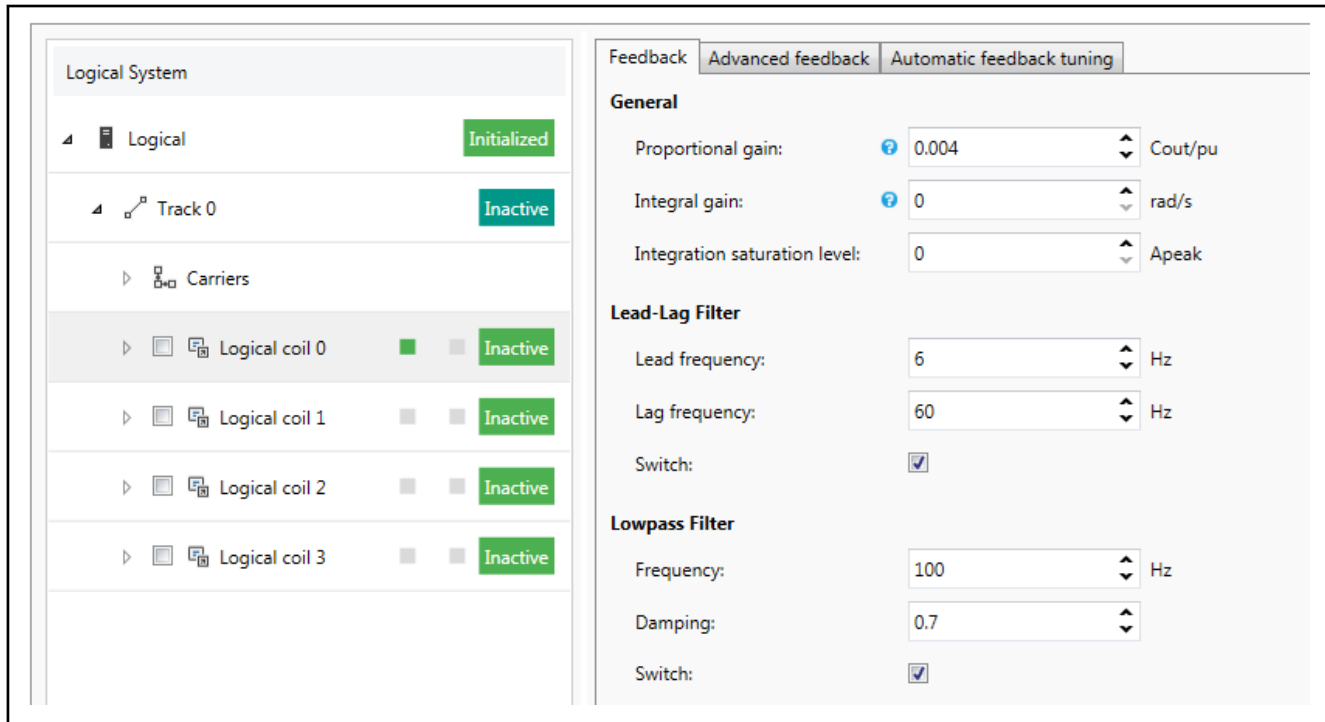

Fig. 4-28: Tuning - initial feedback controller
3. Specify a relatively low proportional gain and lead-lag filter and low-pass filter settings, see fig. 4-28 "Tuning - initial feedback controller" on page 38.